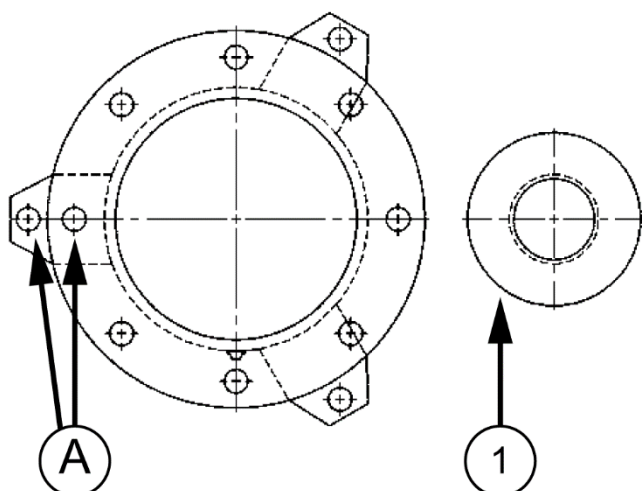

Figure 11. Bearing Assembly and Column Alignment.
1. Completely assemble the BEARING ASSEMBLY (006) according to assembly instructions outlined in Section 9 of this manual.
2. METAL UPPER STRAINER ONLY: If using a metal top suction STRAINER, slide the strainer from the top of the COLUMN (015) to land on the bottom. Ensure the strainer has complete coverage behind each of the three top suction ports. RUBBER UPPER STRAINERS (087) will be installed later if they are specified in lieu of METAL UPPER STRAINER.
3. Fit the bearing assembly into COLUMN (015) and align the two parts as shown in Figure 11. Take particular note of the orientation of the grease nipples relative to the casing mounting lugs on the column bottom. Failure to do so will make it impossible to properly position the discharge pipe through the mounting plate.